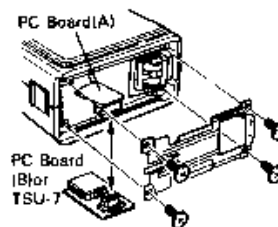

Fig 1.
- Remove the Battery Pack and remove the four philips head screws from the terminal plate of the transceiver. (Fig.1)
- Lift up PC board A, and disconnect PC board B from it. (Fig.1)